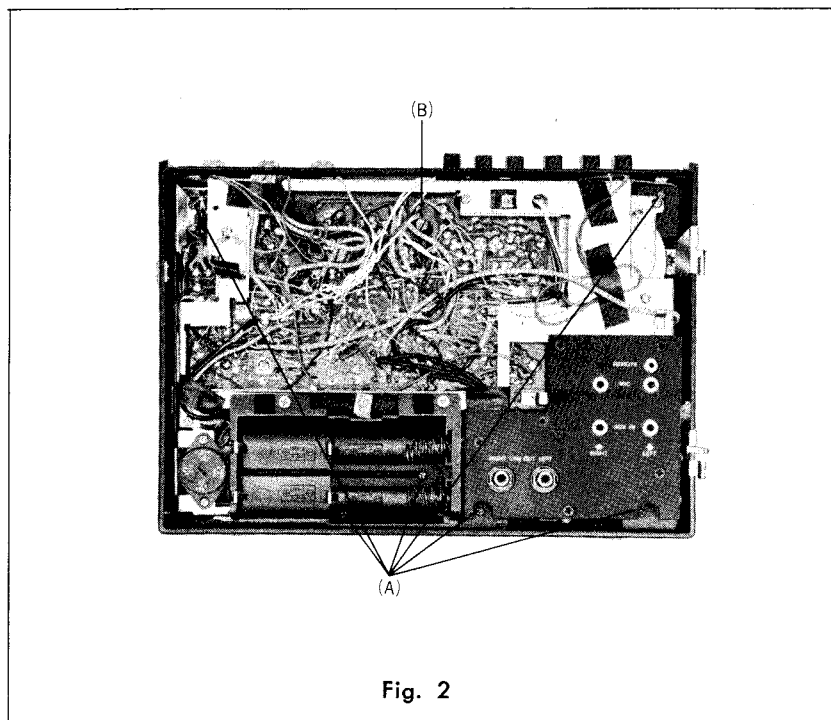

Fig. 2
2. Remove 6 red screws (A) and 1 red pole (B) (shown in fig. 2).